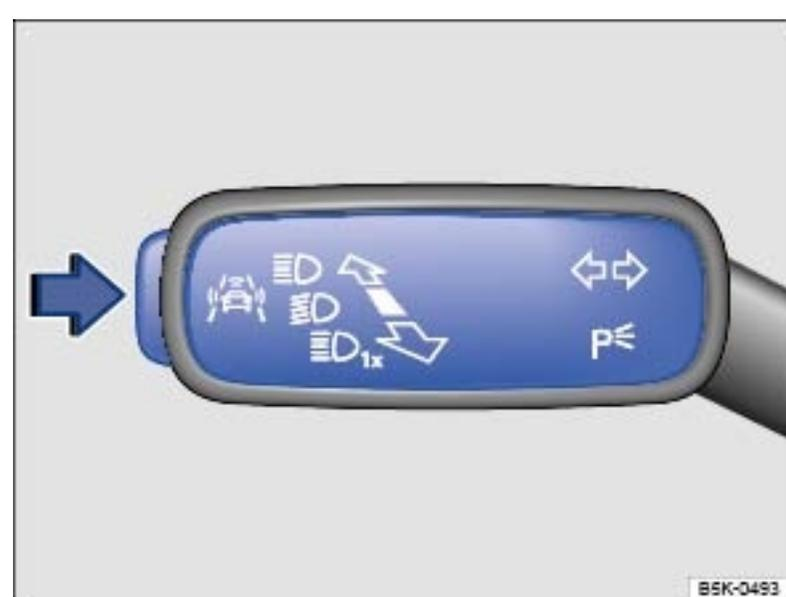

Fig. 15 On the turn signal and high beam lever: Driver assistance
- ▶ Press the button → Fig. 15 (arrow) to open the Assist systems menu.